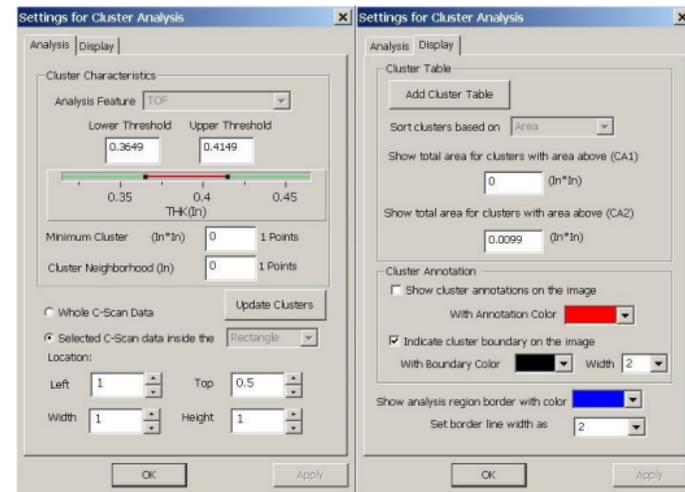

Figure 6.14: Clustering Setup Dialog.
Step 2. Next we must configure the clustering function. The cluster setup dialog includes two pages as shown in Figure 6.14. There are several clustering related parameters to be adjusted. This includes setup of the cluster size, threshold, and display options. Each of these is described further below.
Click 'Add Cluster Table' to bring up a table view with the tabulated clustering results as shown in Figure 6.16. The table shows a cluster by its index, location, amplitude and area. The Cluster table has the following columns. The leftmost shows the cluster ID, this is the identification number assigned when the cluster was formed. Next is the center position which includes coordinates of Y-Axis (Index Axis), X-Axis (Scanning Axis) and depth ('THK'). The next column is amplitude which includes minimum, maximum and average amplitude of the cluster. The last column is the area of the cluster (The number inside the semicolon presents the percentage related to total analysis area). At the bottom of the cluster table, inside the information bar, the total area and percentage of clusters with the area above threshold 1 (CA1) and threshold 2 (CA2) are displayed. You can change the threshold values in the clustering setup dialog shown in Figure 6.14.